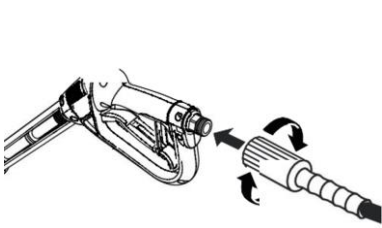

Fig. 10a
- Attach the other end of the hose to the gun by either turning it clockwise or using the quick-connect feature, depending on the model received. Refer to Fig. 10a and 10b for illustrations.